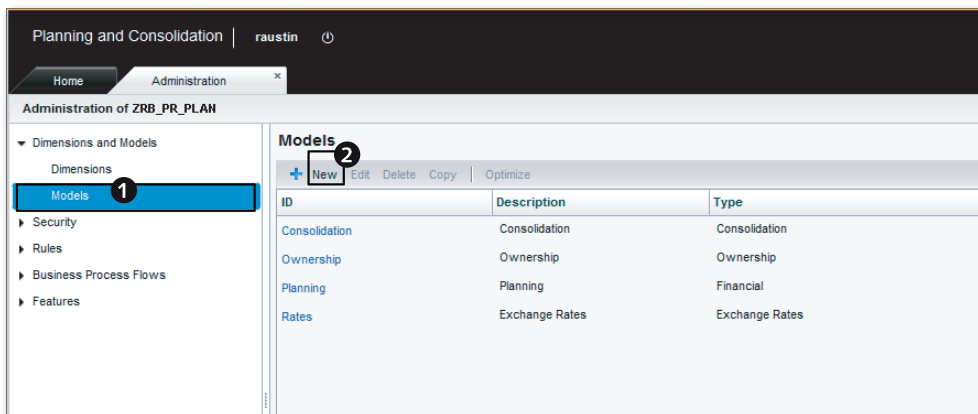

Figure 3.37 Creating a Model—Part A
2. Click on MODELS in the left pane, and select NEW (Figure 3.37, ① and ②).